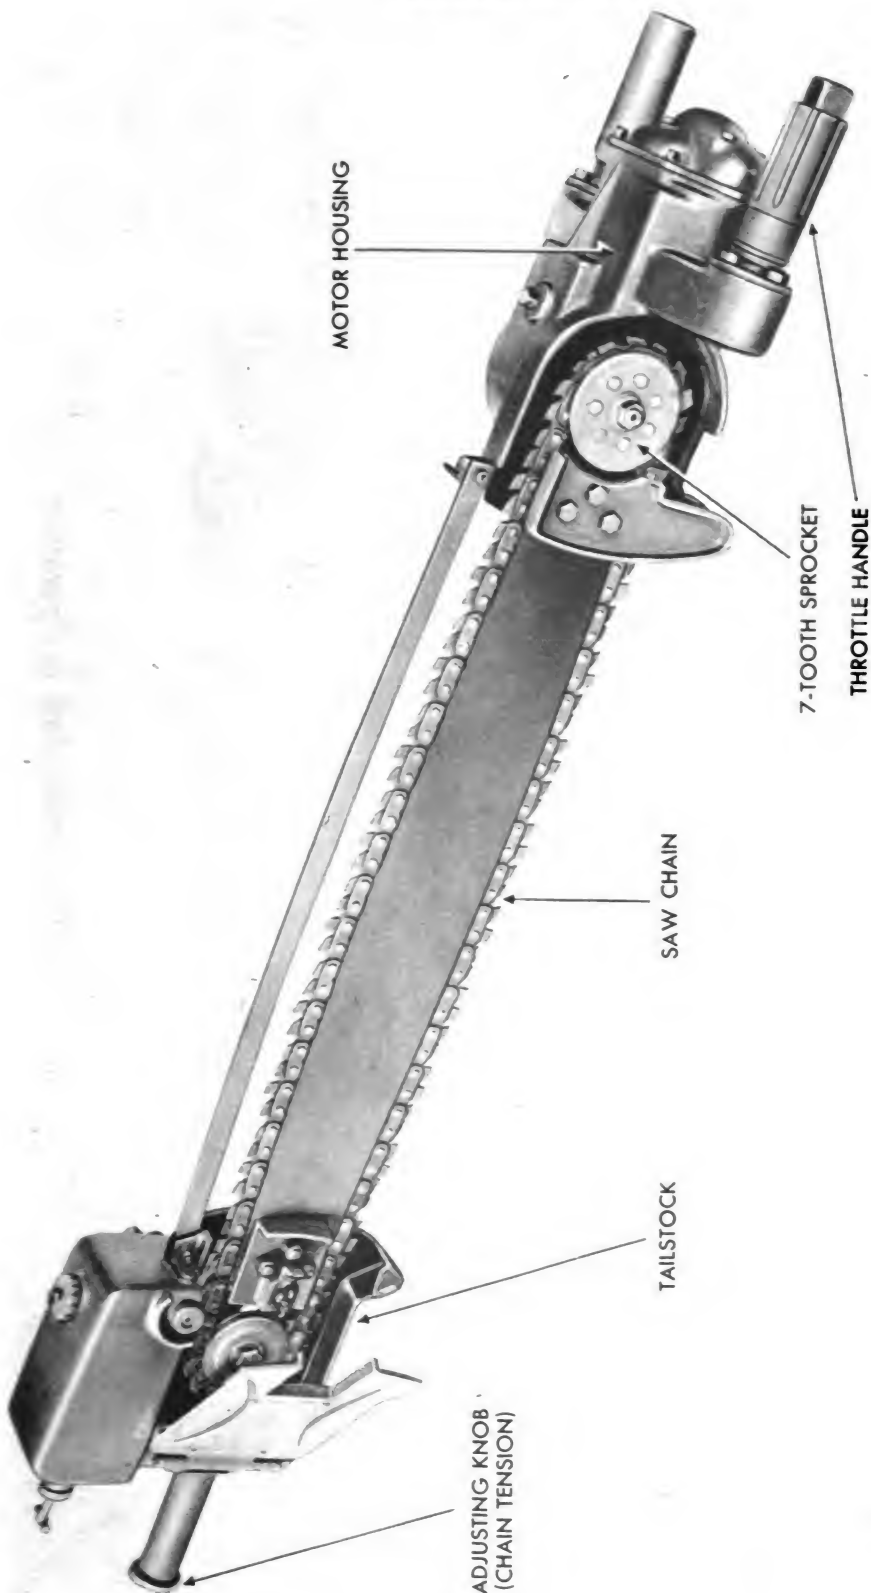

Figure 51 — Timber Saw
a. **General** (fig. 51). The pneumatic timber saw is a light, powerful timber cutting unit operated by a compressed air motor which drives an endless saw tooth chain. An air supply of 90 cubic feet per minute at 90- to 105-pound per square inch pressure drives the chain at its most efficient speed. The air supply is coupled onto the end of a 30-inch hose which is attached to the left handle of the motor. The 30-inch hose is a safety device designed to protect the operator. In case the air supply hose should come uncoupled, its wild end would be at a safe distance. The handle to which the hose attaches is also the throttle. Air supply is governed by twisting the handle.
b. **Air Motor** (fig. 51). A vane-type compressed air motor supplies power for the unit. The motor incorporates a governor and an automatic oiling device which supplies an oil mist to lubricate the vanes and rotor. The rotor shaft rides on two ball bearings. Since the motor is a self-contained separately-housed assembly, it may be removed from the saw as a unit.
c. **Power Train** (fig. 51). Power from the motor is transferred through a pair of bevel gears to a 7-tooth sprocket. The gear box requires grease but the bearings have lubricant sealed in them and require no special attention. Mounted on the bevel gear shaft, the sprocket drives the chain which travels in a groove in the cutter bar. The cutter bar is rigidly connected at the motor end and at the tailstock end. It is shaped with a slight radius to improve the cutting action of the chain.
d. **Tailstock** (fig. 51). The tailstock contains an idler which is adjustable and is used to remove slack in the chain and govern tension. There is a spring device incorporated in the tailstock which acts as a shock absorber. An oil tank mounted on top of the tailstock supplies oil to lubricate the chain and cutter bar.
e. **Chain** (fig. 51). Easily removed from the saw without disconnecting links, the chain is made of cutter teeth in the form of links riveted together. These links are of case hardened steel and are so shaped that a simple filing or grinding operation keeps the chain in efficient cutting condition. Outer links consist of cutter teeth and plain lengths. Inner links are rakers which extend below the outer links forming a guide which rides in the groove of the cutter bar. These extensions on the rakers provide the means for engaging the driving sprocket. Every six links form a "cutting action." Each cutting action consists of a sequence as follows: left cutter, right raker, right cutter, left raker, left cutter, and center raker. To balance the chain, one cutting action or sequence starts with a left cutter and the next with a right cutter. The sequences are repeated throughout the entire chain which is an endless unit. The rivets which hold the links or teeth together are made with a shoulder against which the outer or side cutters are riveted. The shoulder properly spaces the side cutters so that clearance is maintained with the center links or rakers to provide a flexible chain.
22. OPERATION (figs. 51 and 52).
- b. Adjust chain tension (par. 24 b (8) (c)).
b. Adjustment of Saw Chain Tension (fig. 51).
(1) Test chain tension by lifting chain from cutting bar. Tension is correct if chain lifts $\frac{1}{4}$ inch from center of cutting bar.
(2) Adjust chain tension, if necessary, by turning tension adjusting knob (fig. 51). Turn clockwise to pull idler back and tighten chain, turn counterclockwise to loosen chain.